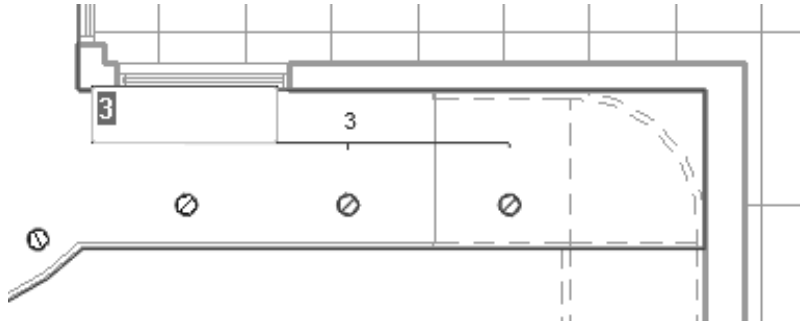

Figure 2–75
- If **Group And Associate** is selected, you are prompted again for the number of items, as shown in Figure 2–75. Type a new number or click on the screen to finish the command.